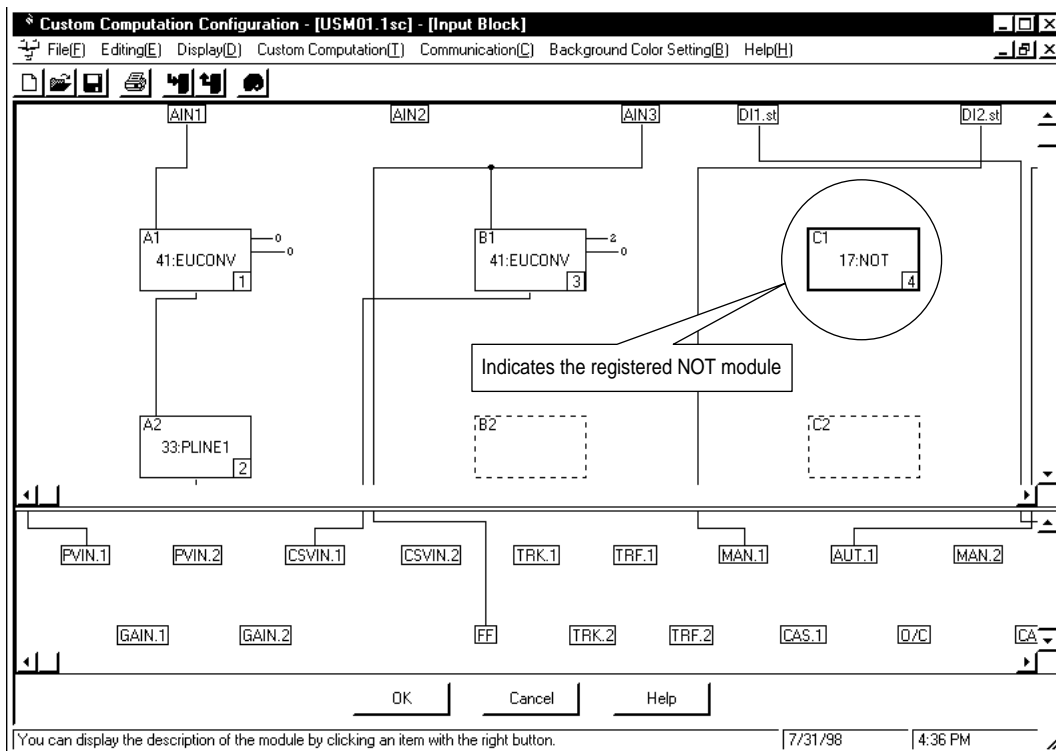

Figure 4.2.6 Example where a NOT Module Is Registered as the Fourth-Run Module
Figure 4.2.6 shows an example where the <17: NOT> option in the <Logical Operation> index is registered.
- ① In the [Input Block] dialog box, click the module whose inputs and parameters you want to configure. In the example shown in Figure 4.2.6, click the NOT module.